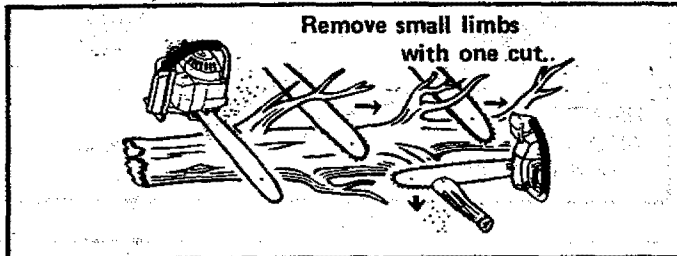

Figure 34
- c. Start at the base of the felled tree and work towards the top cutting branches and limbs. Remove small limbs with one cut. Figure 34.